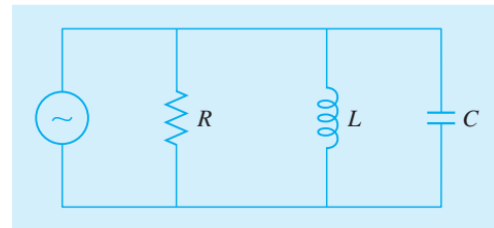

FIGURE P6.19
6.19 Figure P6.19 shows a circuit with a resistor, an inductor, and a capacitor in parallel. Kirchhoff's rules can be used to express the impedance of the system as